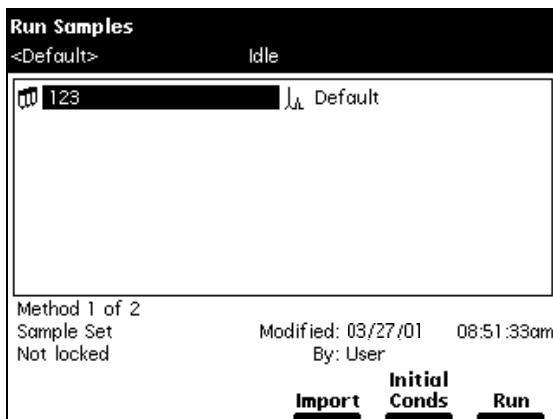

Figure 6-2 Run Samples Screen (Example)
1. Press **Run Samples** in the Main screen. The Run Samples screen appears (Figure 6-2), listing the available separation methods and sample sets.
2. Press **Run Samples** in the Main screen. The Run Samples screen appears (Figure 6-2).